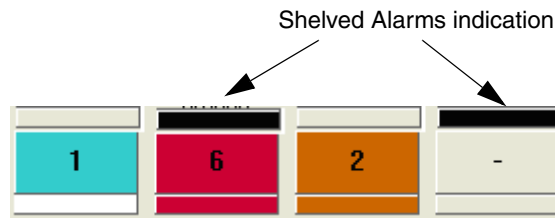

Figure 90. Shelved Alarms
**Shelved Process Alarms.** Alarm Band indicates if there are any shelved alarms. The indication of the band is similar to hiding. Click the upper section of the alarm band (black by default) to navigate to the shelved alarm list. Refer to Figure 90 for more information.